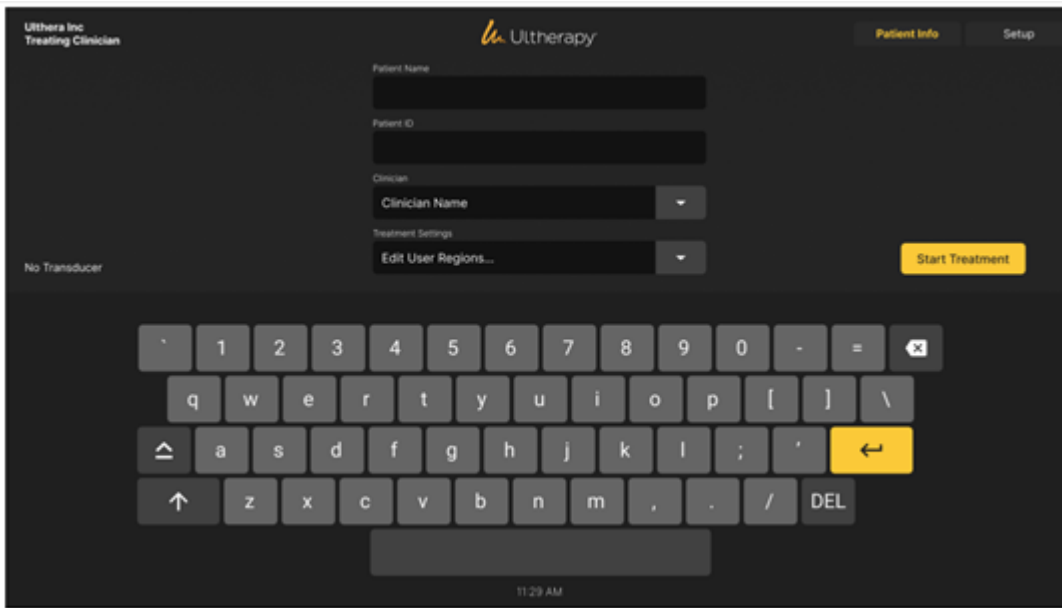

Figure 7.6: Patient Info Screen
1. The **Patient Info** screen shown in Figure 7.6 is the Patient Info Screen displayed when you turn on the system.